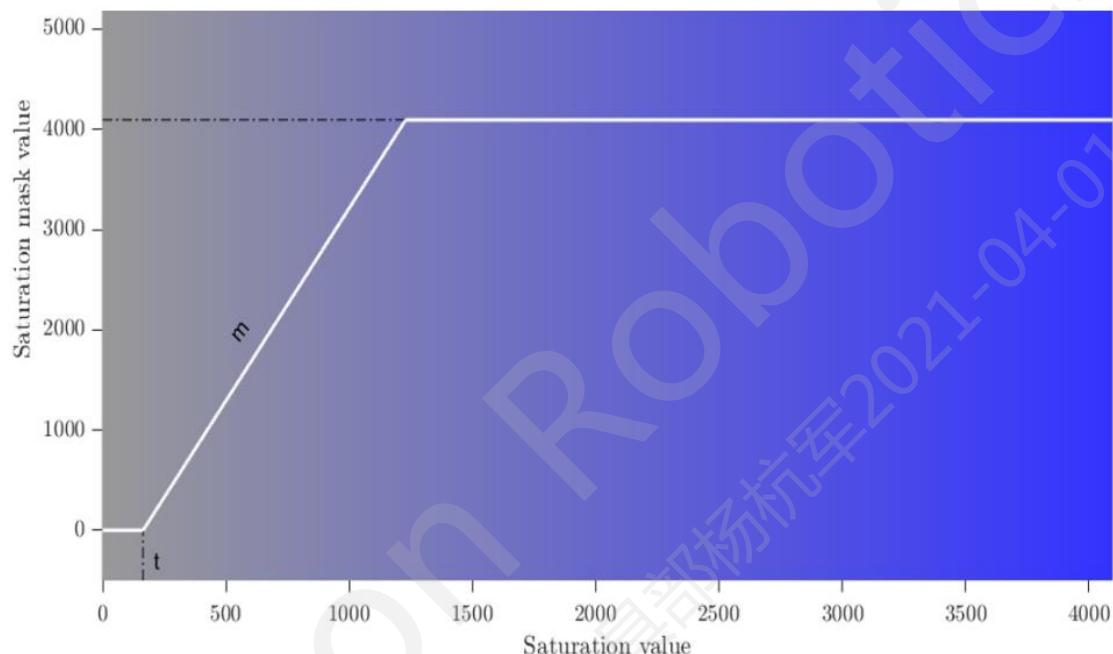
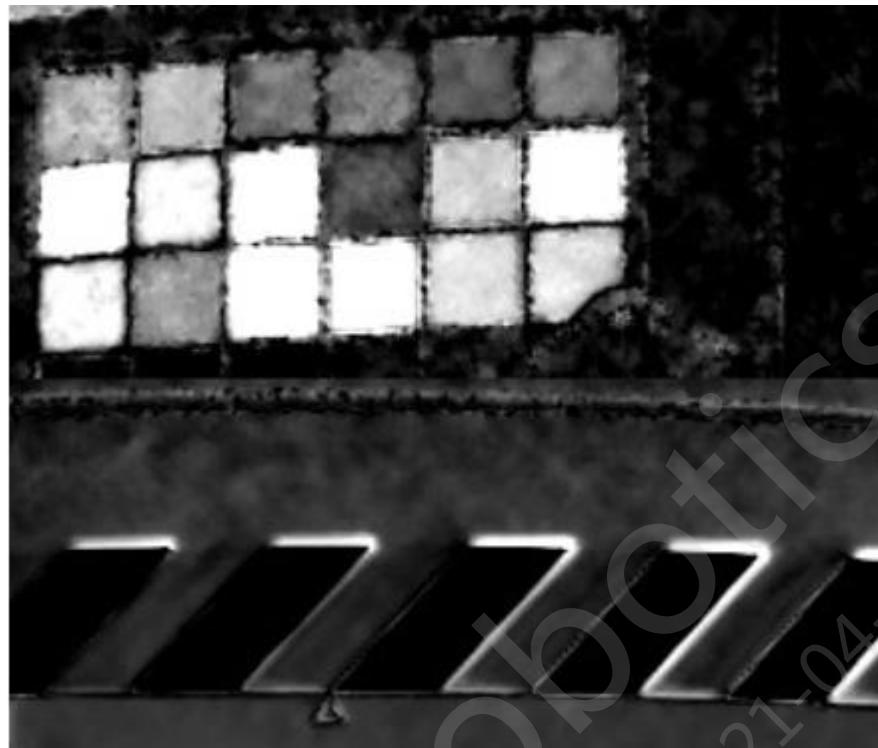

Figure 3.16-4 Saturation parameters and curve
Figure 3.16-5 Tuned saturation mask
These registers define the linear threshold function, which is visualized in Figure 3.16-4. With this function shape, the mask will isolate pixels of medium to high saturation.
- Referring to Figure 3.16-4, adjust the shape of the filter using Sat\_low\_thresh and Sat\_low\_slope until all fringing regions are included in the mask, with other regions minimized. The initial "Sat\_high" values will have no effect, but can be adjusted to reject high saturation pixels if desired. Figure 3.16-5 shows a tuned saturation mask.